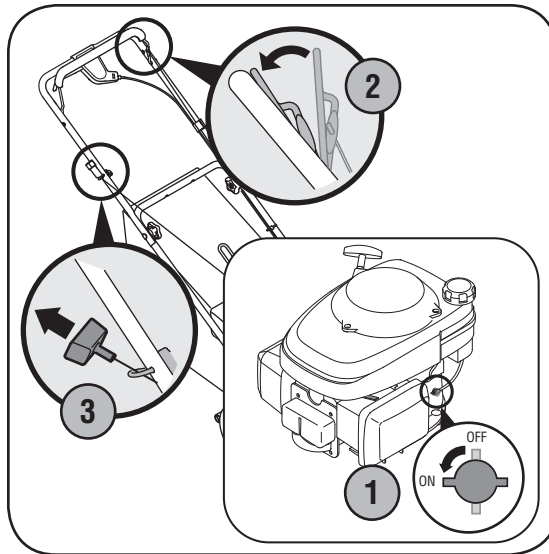

Figure 4-2: Starting the mower.
1. Place the fuel valve lever found on the left side of the engine into the ON position, Figure 4-2.
2. Standing behind the mower, squeeze the blade control against upper handle, Figure 4-2.
3. Holding these two handles together firmly, grasp recoil starter handle and pull rope out with a rapid, continuous, full arm stroke, Figure 4-2. Keeping a firm grip on the starter handle, let the rope rewind slowly. Repeat until engine cranks. Let the rope rewind each time slowly.